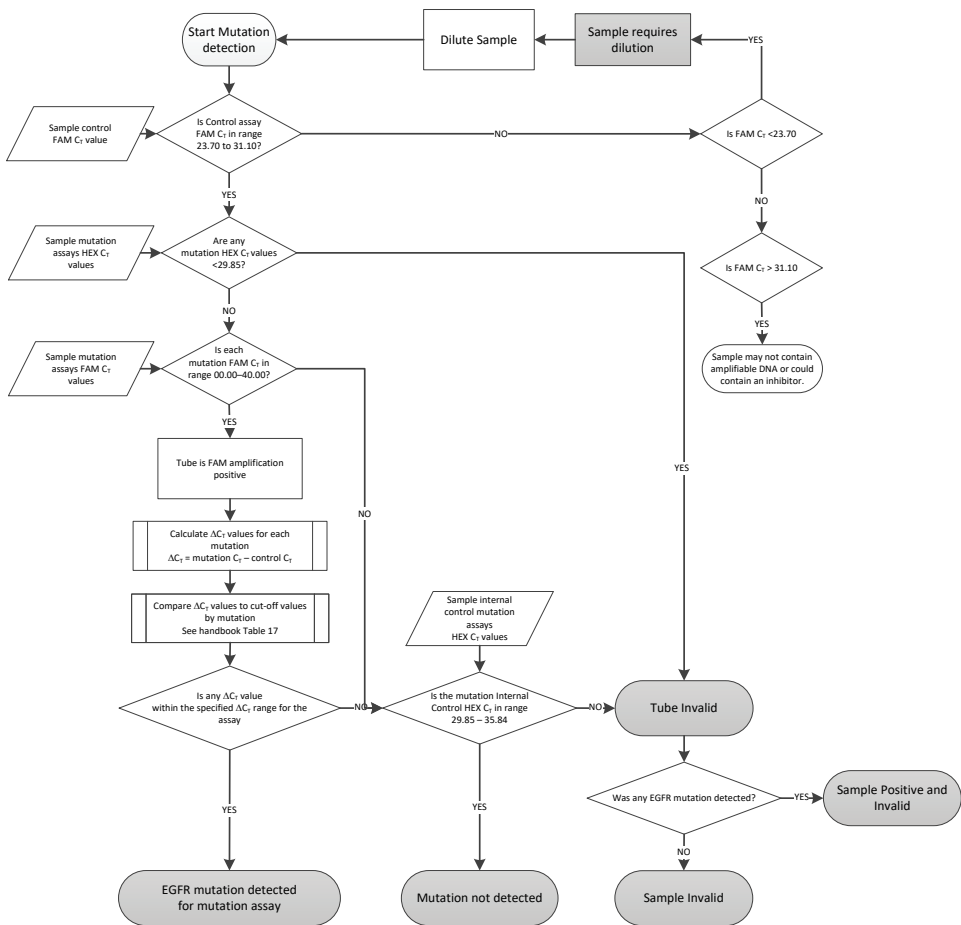

Figure 40. Sample analysis flowchart for EGFR mutation detection.
Refer to the sample analysis flowchart for EGFR mutation detection in Figure 40.
**Note:** Refer to the sample analysis flowchart for EGFR mutation detection in Figure 40.
R4, March 2018	Change to setup storage times to clarify thawing time and total time in "Storage conditions" and Tables 2 and 5. Update to Figure 40. Sample analysis flowchart for EGFR mutation detection. Added ordering information for the QIAamp® DSP DNA FFPE Tissue Kit (cat. no. 60404)